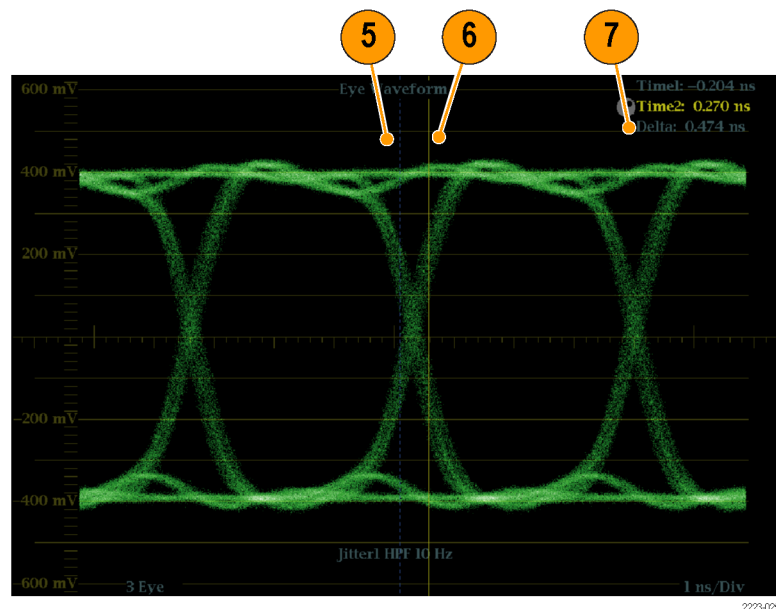

Figure 60: Using cursors to measure jitter
5. Position the first timing cursor at the left edge of the zero-crossing point of the Eye waveform. (See Figure 60.)
6. Position the second timing cursor at the right edge of the zero-crossing point of the Eye waveform. (See Figure 60.)
7. Check that the Delta readout is less than the following: (See Figure 60.)